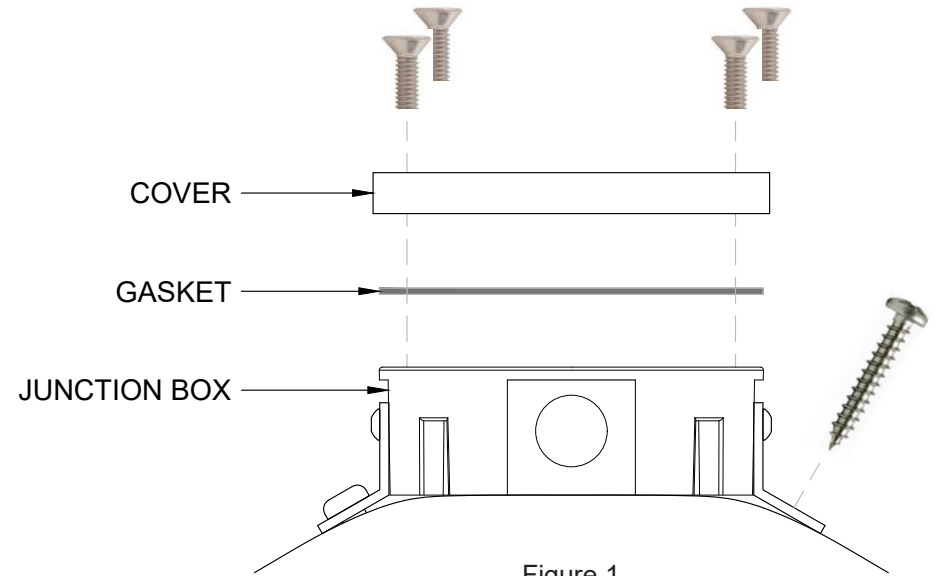

Figure 1
4. Locate the desired mounting position of the Box. Using the Box as a template, drill pilot holes into the mounting surface with a 5/32" bit. Loosely install the two supplied #14 x 1-1/2" long stainless steel screws. Apply silicone glue around and underneath all screw heads. Tighten all screws. (Figure 1)
12. Secure the Cover with the fixture(s) and Gasket onto the Box with the screws removed in Step 2. (Figure 1)